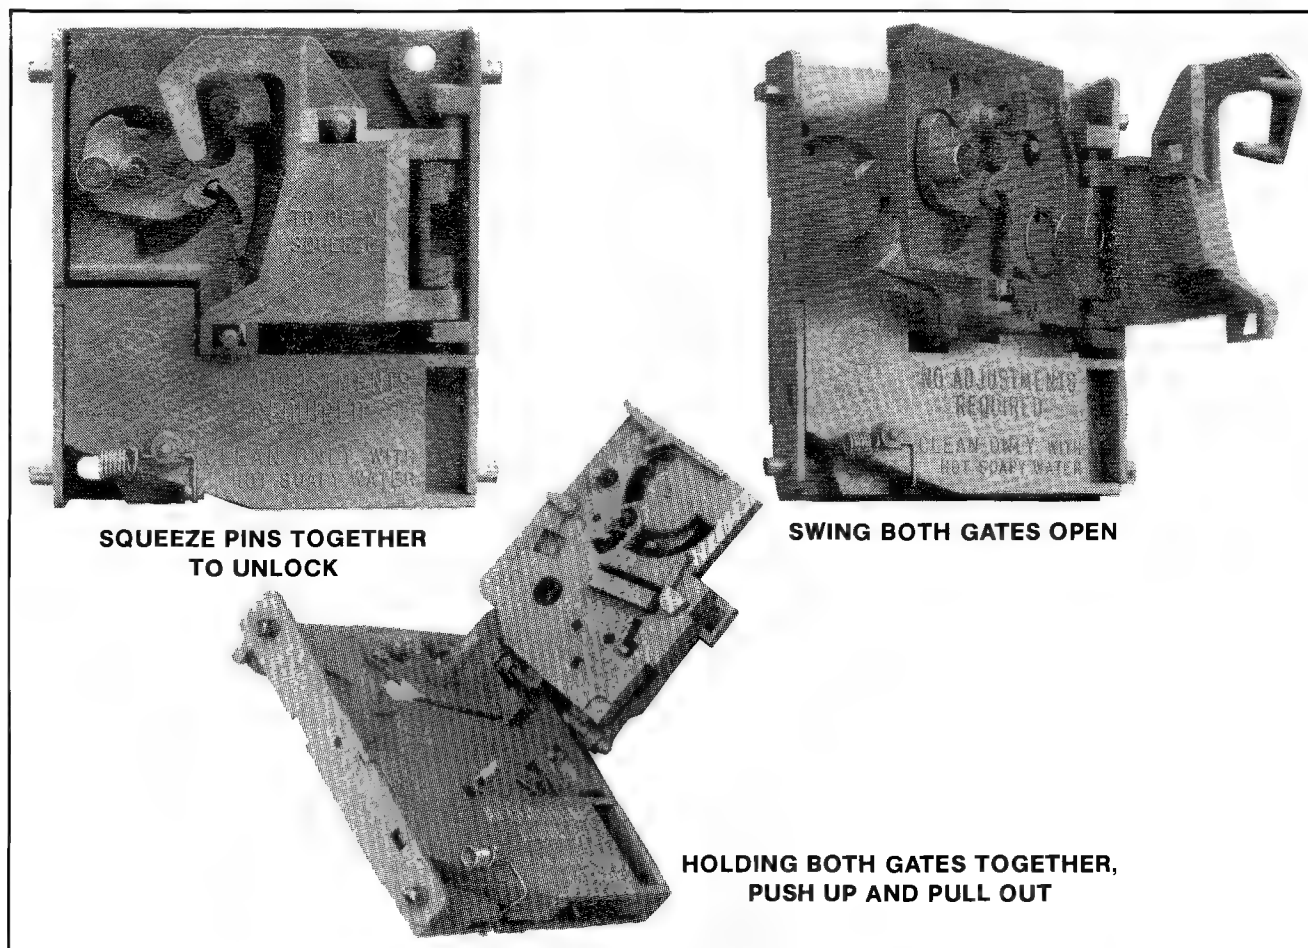

Figure 36 Opening the plastic coin acceptor
4. Squeeze the two pins indicated in Figure 36 together to open the mechanism and break it down into its three basic parts.